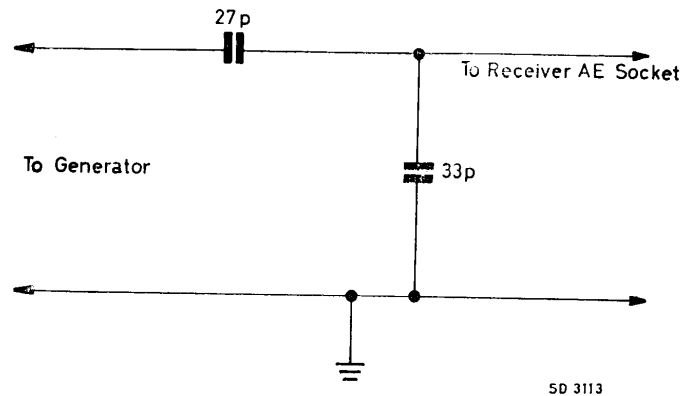

Fig. 2. Dummy aerial
- Inject a 1620 Kc/s signal (30% modulated with 400c/s) via a dummy aerial (see Fig. 2).